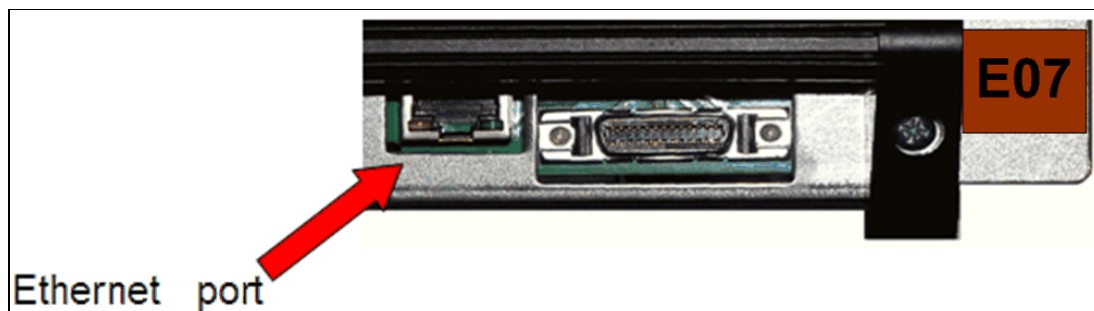

Figure 3-19 TS1140 Ethernet port
The Ethernet port is used in the TS1140 Rack mount configuration when in a TS3500 tape library configuration the TS3500 tape library management interface (MI) can be used to manage the TS1140 instead. Figure 3-19 on page 175 shows the location of the Ethernet port.
The 3592-E07 canister no longer has an RS-232 serial port. An Ethernet service port was added to the drive, which is for service, and use by the user. It provides the capability for users to access advanced drive status pages and for service personnel to access a drive virtual operator panel and perform firmware uploads and download drive memory dumps. It is a single, standard RJ45 connector at the rear of the canister, as shown in Figure 3-19.